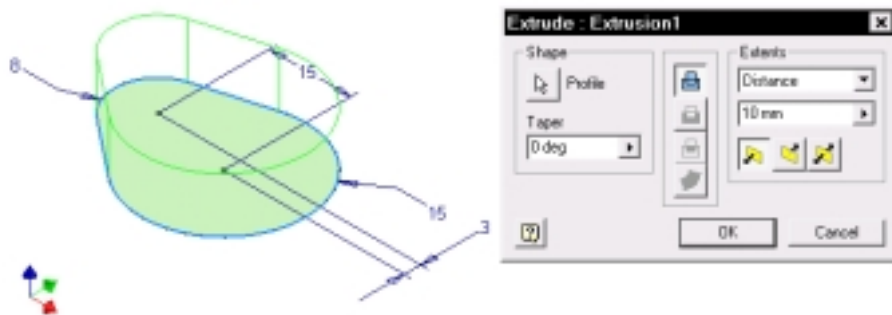

Figure 3-9
3. Set the display to an isometric view and extrude the sketch a distance of 10 mm. (See Figure 3-9.)